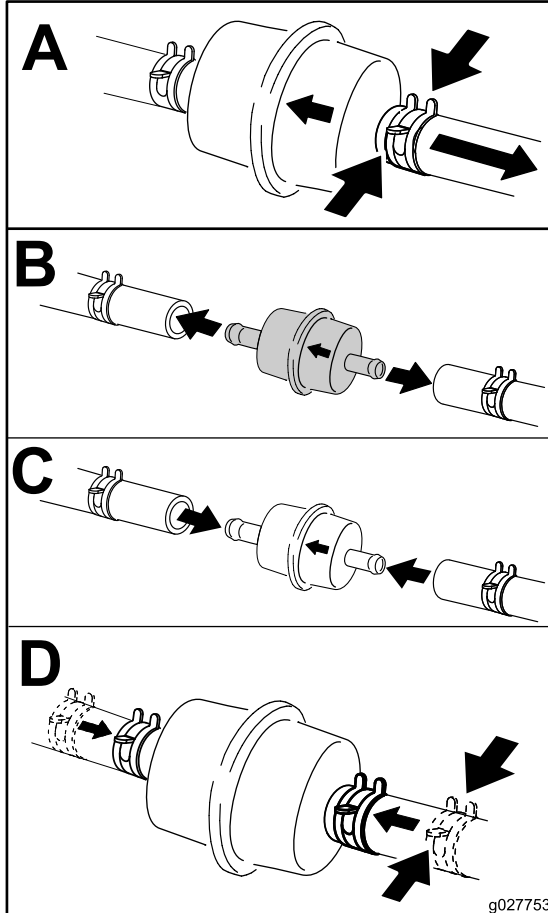

Figure 38
3. Replace the in-line filter (Figure 38).